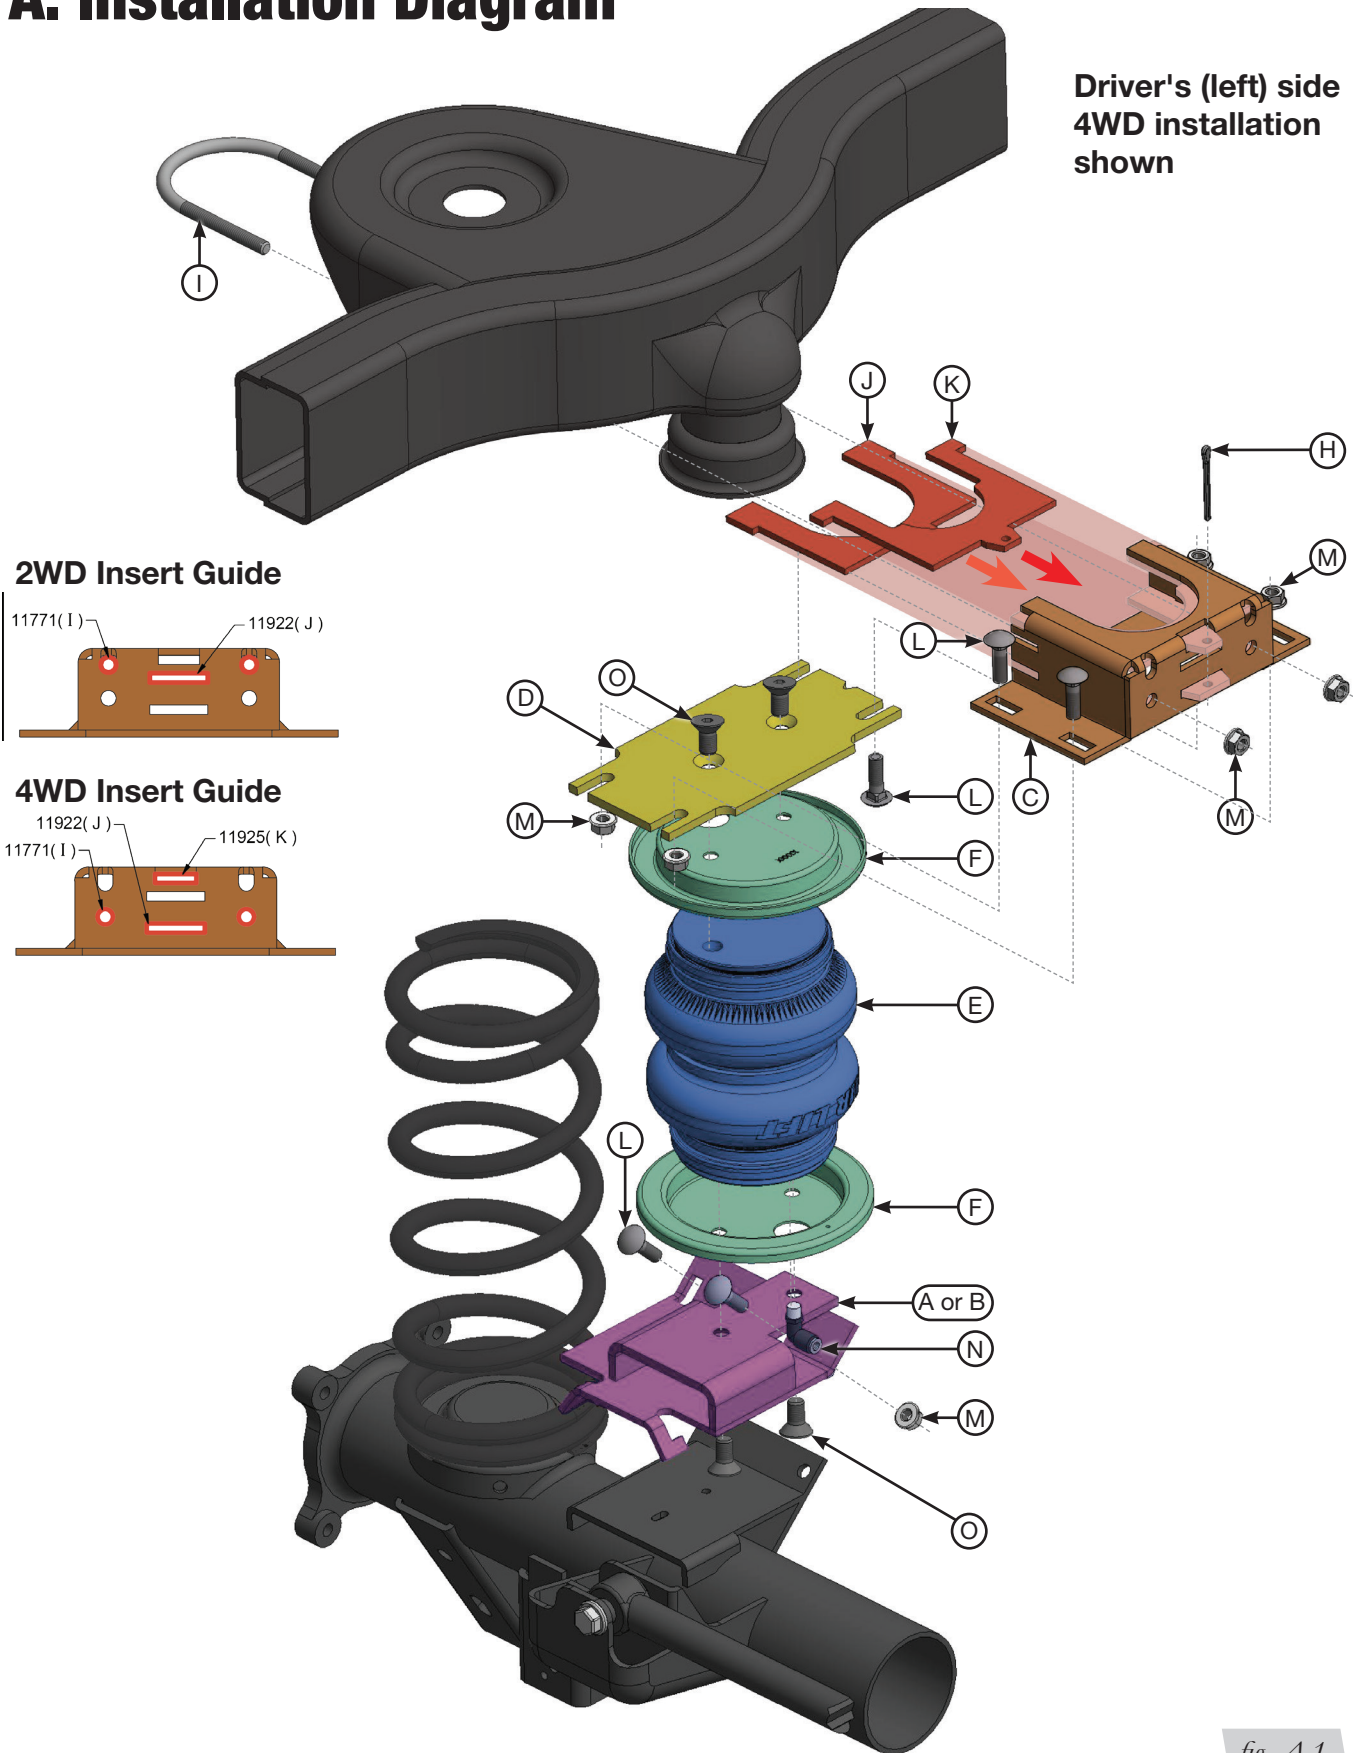

fig. A.1
* These parts are not shown in the Installation Diagram (Fig. A.1).